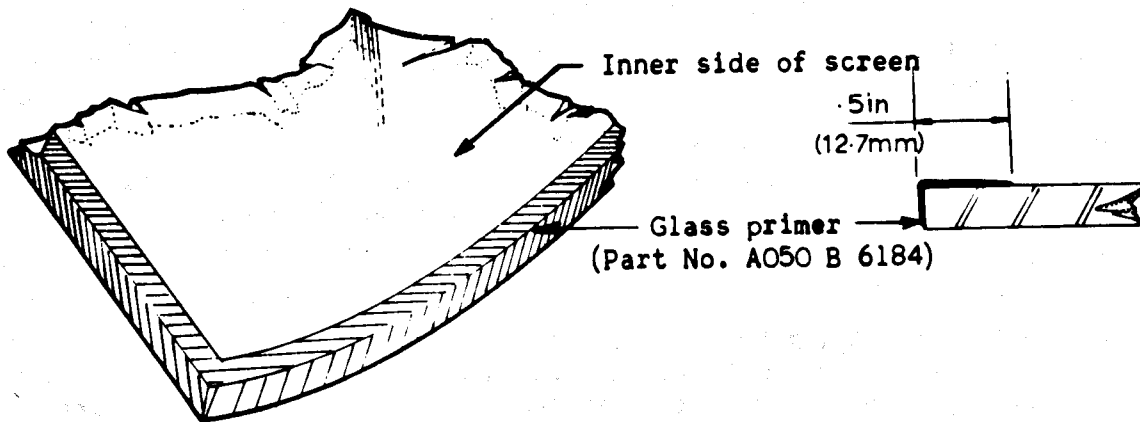

Fig.18 - Application of glass cleaner/primer
8. Apply the glass cleaner/primer to the edge of the screen, overlapping the inside edge of the screen to a depth of .5 in. (12.7 mm), using a sponge applicator (see Fig.18). This must be allowed to dry for a **MINIMUM** of 10 minutes and a **MAXIMUM** of 8 hours. The drying time also applies to the body primer used in paragraph '7'.